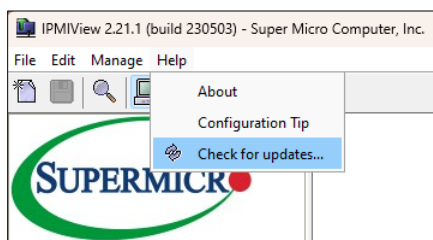

Figure 14-1
1. Click **Help** on the menu bar and then select **Check for updates** in the pull-down menu (see Figure 14-1). This will allow IPMIView to check the Supermicro website for a new version.